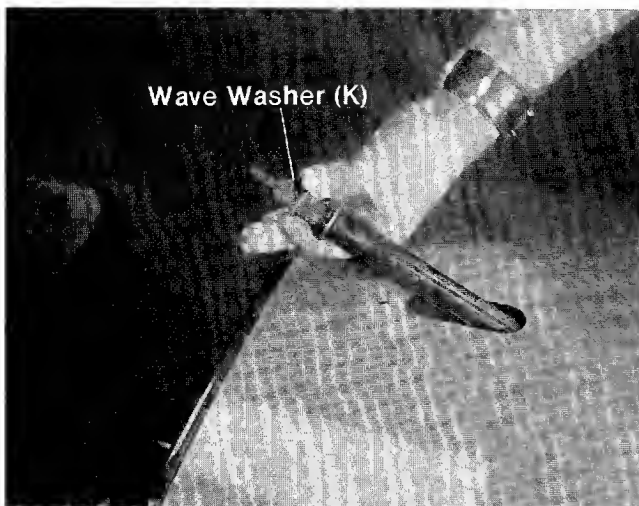

FIGURE 8.
5. Place wave washer (K), steering wheel (E), belleville washer (J), over end of steering shaft and secure with hex nut (I), using a 1/2" wrench. See figures 8 and 9.